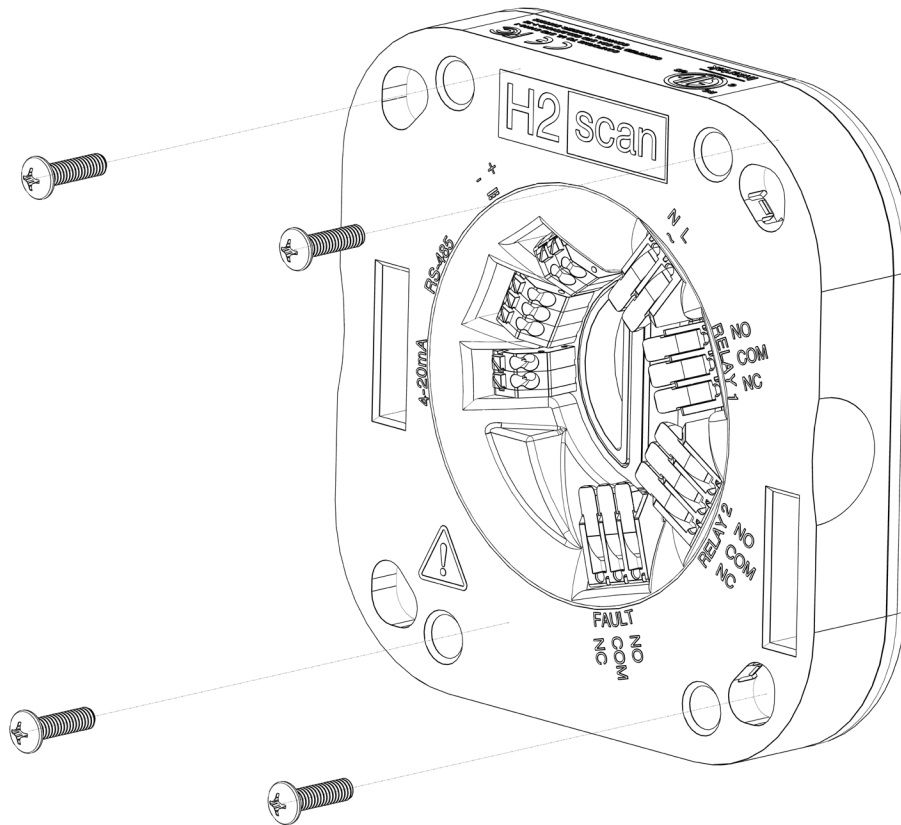

Figure 3: Secure Power Board Assembly
1. Install the Power Board Assembly onto surface (see Figure 3).